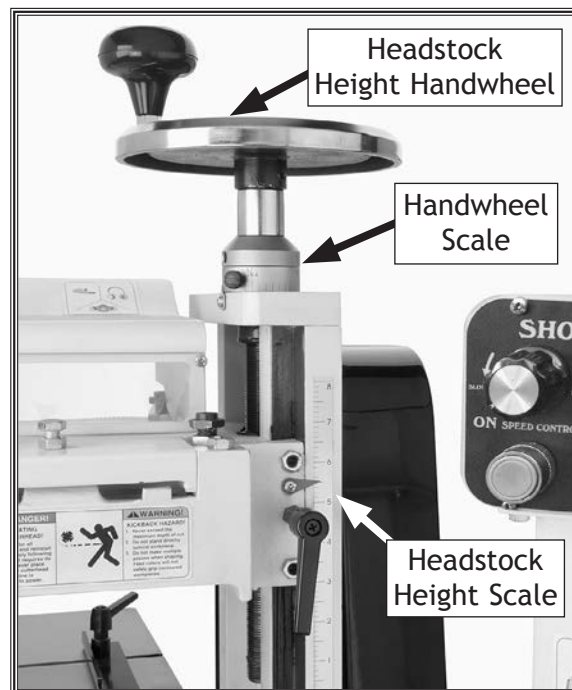

Figure 37. Depth controls and scales.
5. Measure the workpiece thickness, loosen the headstock lock lever, and use the handwheel (see **Figure 37**) to adjust the headstock for a light pass.